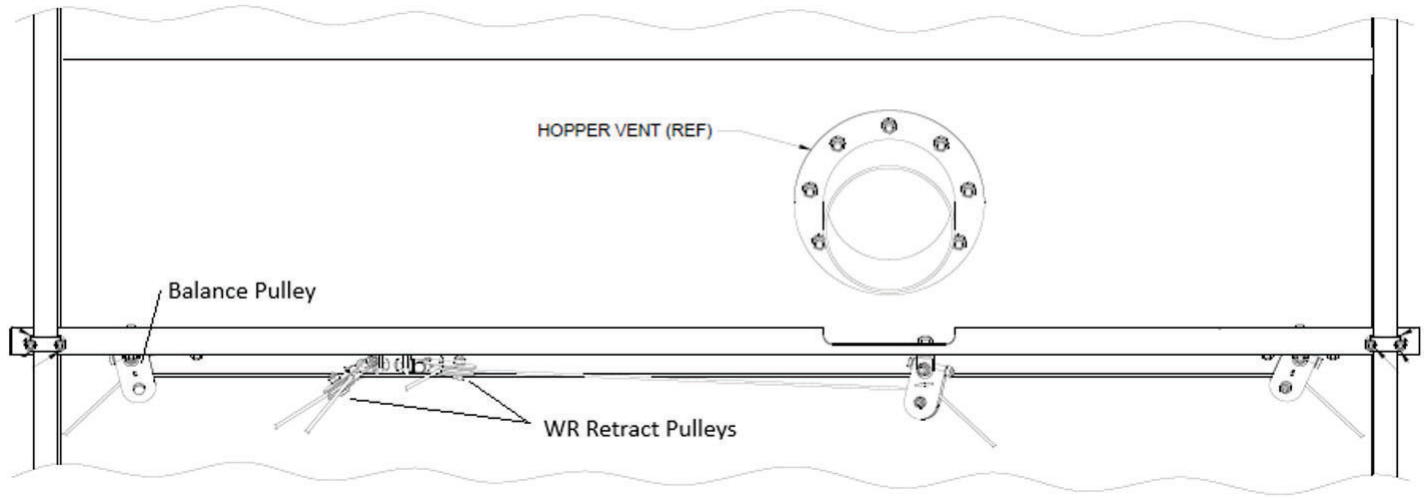

FIGURE 8: PULLEY BRACE AT STA 67.88
11. The next step is to reconfigure the pulleys on the brace mounted to vertical fuselage tubes at STA. 67.88. Figure 8 view is looking forward at the aft side of the hopper.